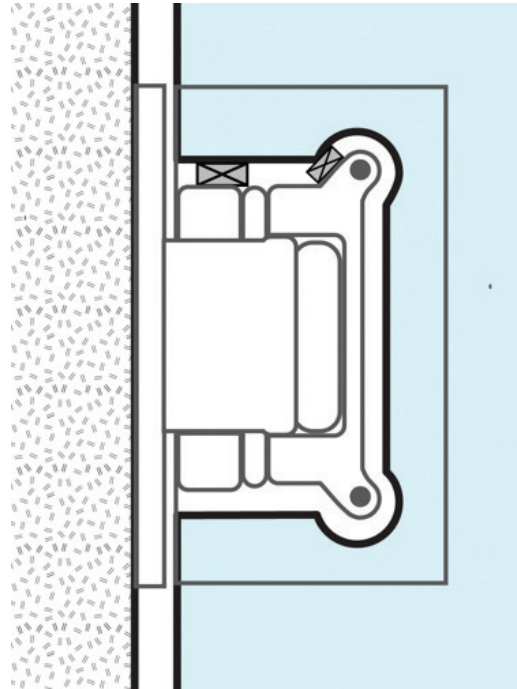

FIGURE 46
1. If a wall mounted hinge door continues to slip and fall out of adjustment, use a hard setting block material between the body of the hinge and the cutout glass to essentially block it into position and prevent further slipping (see Figure 46).